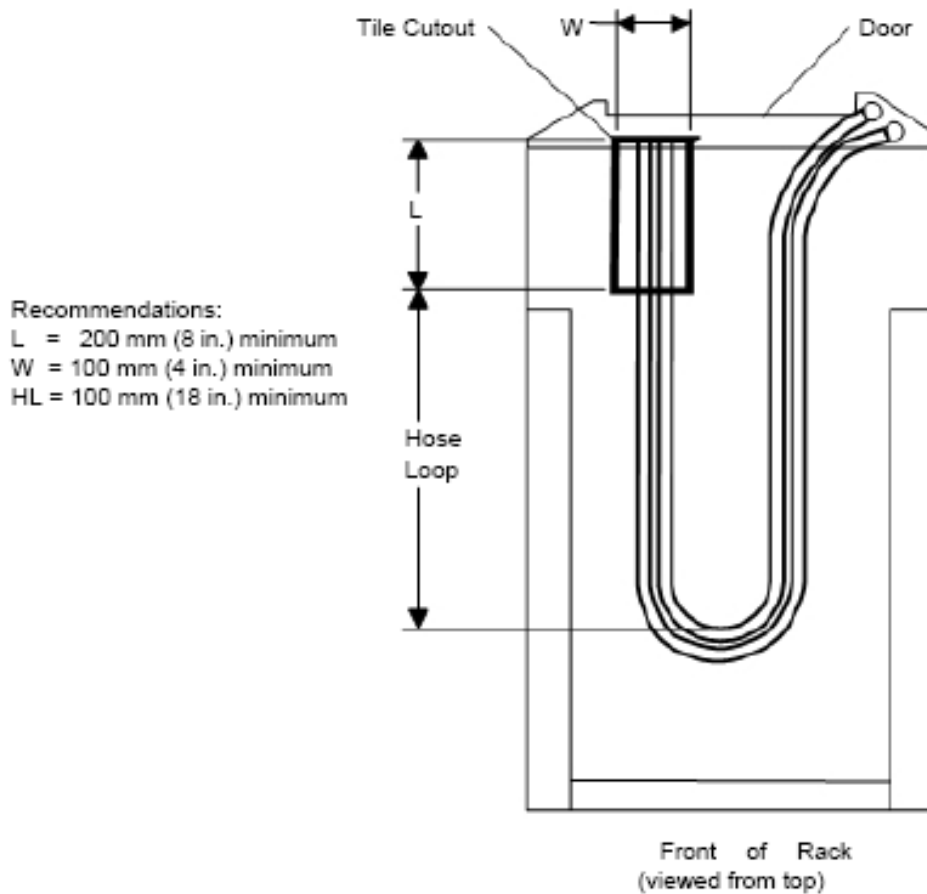

Figure 10. Raised floor and non-raised floor hose management example 2; loop under the rack with door closed
3. For enclosures being installed at the same time as an RDHx, or in cases where the cutout cannot be placed directly beneath the RDHx, a modified ~~able opening~~ hose cutout can be used. Hoses with a right-angle elbow can be used to route the hoses under the enclosure in a large loop to allow hose movement when the door is opened and closed, and then fed into the cutout positioned fully under the enclosure. Figures 10 and 11 show an example of this. Existing floor tile cutouts for electrical or other cables can also be used for the hoses if enough space is available.